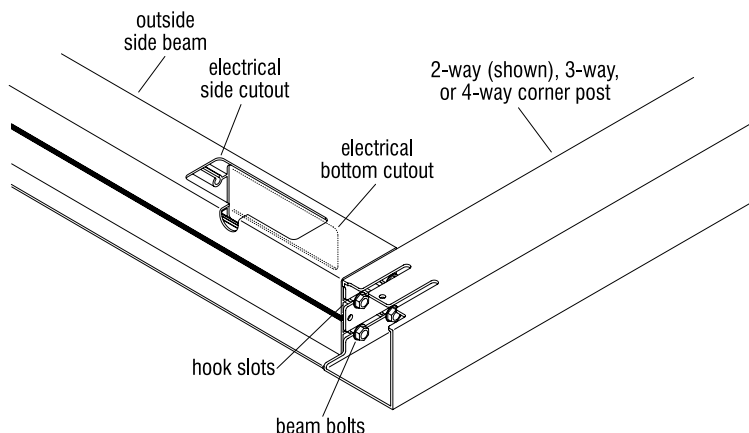

Figure 6 - Shared Room Hoop
9. With the corner posts cut to correct length, and the appropriate side beams located and identified per the previous steps, lay the corner posts and beam down, taking care to not damage or scratch them. Position the posts and side beams down with the outer sides face down, as illustrated to nest together. The outside side beam larger flange must face against the floor, or if using a shared beam, the non electrical cutout side should face against the floor. The electrical cut-outs should then face up, or inward to the unit when installed (Figure 6).